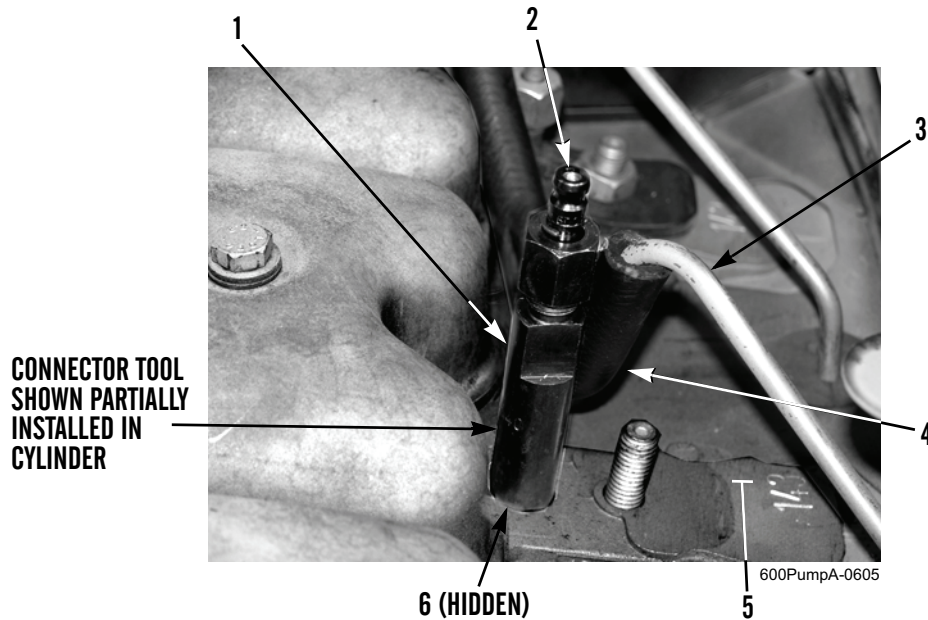
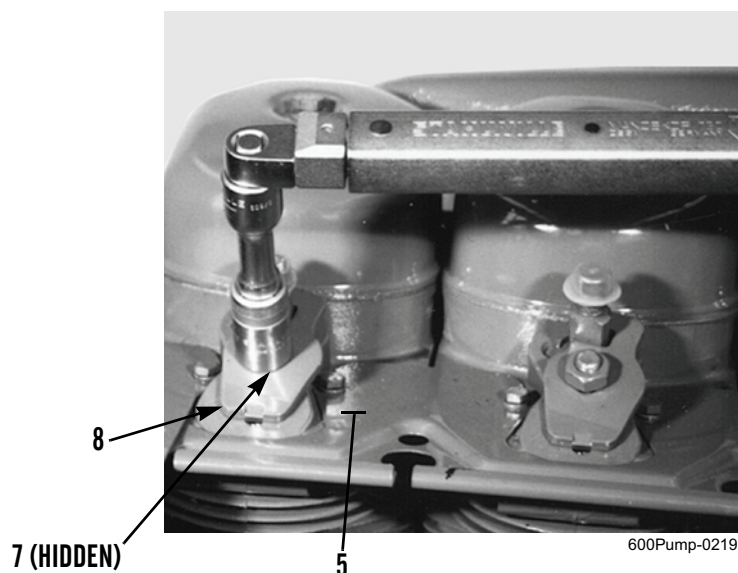

Figure 1. Connector Tool, Compression Tester Adapter, and Drain Hose.
Figure 2. Securing Connector Tool.
1. Install a suitable drain hose (Figure 1, Item 4) on end of fuel injector line (Figure 1, Item 3) and place other end of drain hose into a container, to capture fuel when engine is cranked.
2. Install adapter (Figure 1, Item 2) from cylinder compression tester to end of connector tool (Figure 1, Item 1).
3. Position new seal (Figure 1, Item 6) and connector tool (Figure 1, Item 1) in cylinder head (Figure 1, Item 5).
4. Install clamping pad (Figure 2, Item 8) and nut (Figure 2, Item 7) to secure connector tool (Figure 1, Item 1) to cylinder head (Figure 2, Item 5). Tighten nut to 18 to 26 lb-ft (25 to 35 Nm).